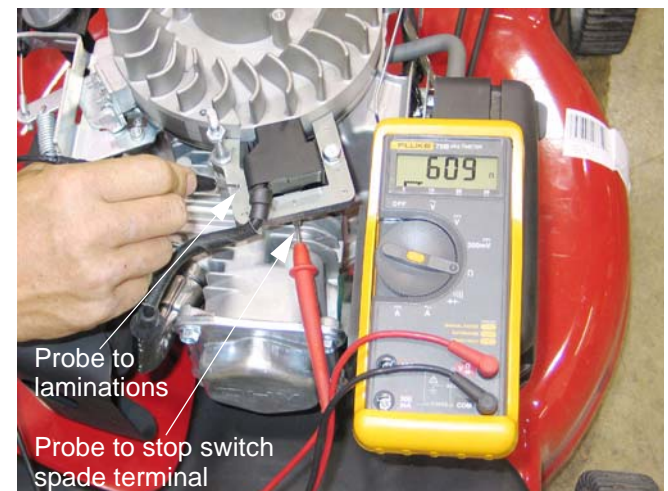

Figure 7.21
- 7.21. Resistance in the primary windings of the ignition module, measured between the spade terminal and the laminations, was observed to be in the 550-650  $\Omega$  range. See Figure 7.21.